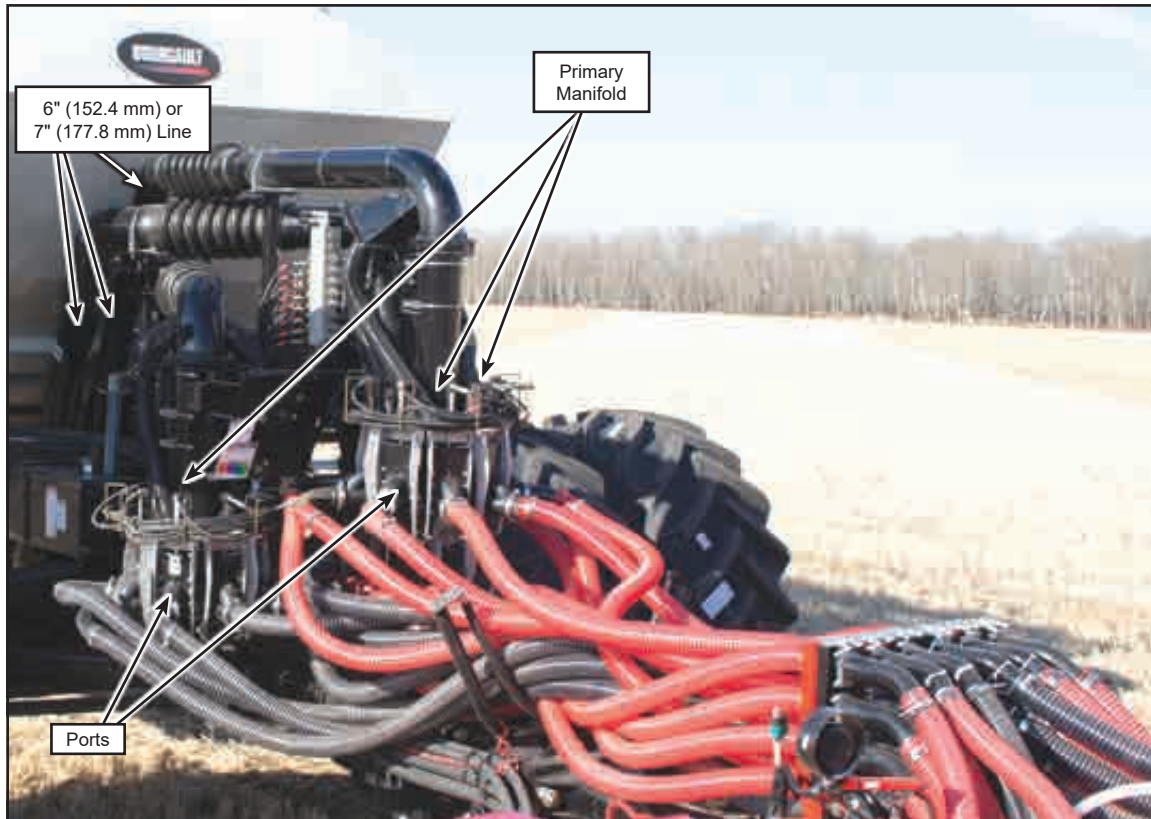

Figure 1.1 - Primary Line, Manifold and Ports - TriMax
3. Count the number of ports on the primary manifold. This is the manifold being fed by the 6" (152.4 mm) or 7" (177.8 mm) pipe from the air cart, refer to *Figure 1.1*.